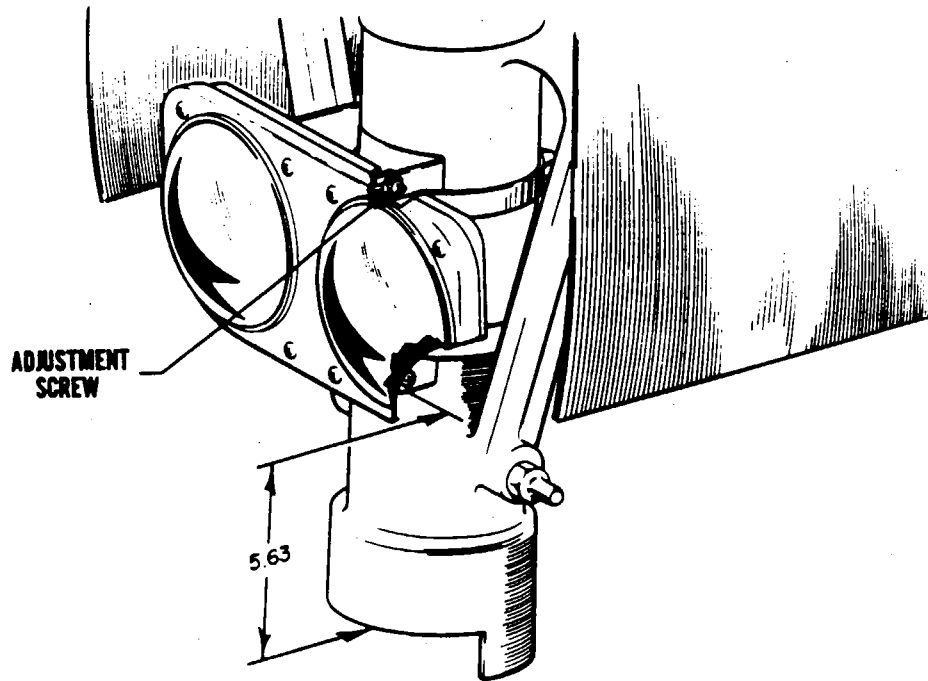

Figure 4-1. Landing Light Installation
4-12. REMOVAL OF LANDING LIGHT. (Refer to Figure 4-1.)
b. To install the landing light assembly, position the assembly against the strut housing with the bottom of the mounting bracket 5.63 inches up from the bottom of the housing. (Refer to Figure 4-1.) Align the bracket longitudinally and secure with clamps. The light beam angle may be adjusted by the adjustment screws at the sides of the bracket and tilting as desired.